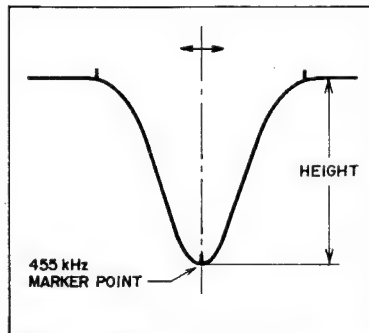

Fig. 16
NOTE: Noise should not enter the single peaked curve shown in Fig. 16.
- 5) Adjust the core of AM IF Amp. P.C. Board IFT T3 (BLK) so that the 455 kHz marker point of the single peaked curve displays maximum amplitude as shown in Fig. 16.
- 6) Adjust the cores of AM IF Amp. P.C. Board IFT T2 (WHT), T1 (YLW) so that the left and right rise up characteristics of the single peaked curve shown in Fig. 16 are identical from the center (indicated by the dotted line in the figure).